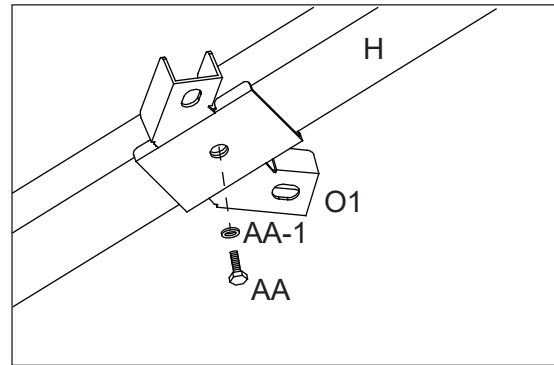

Figure 14-2
14.2: Attach Connector (O1) to Main Roof Corner Support (H) using Bolt (AA) and Steel washer (AA-1). See Figure 14-2.